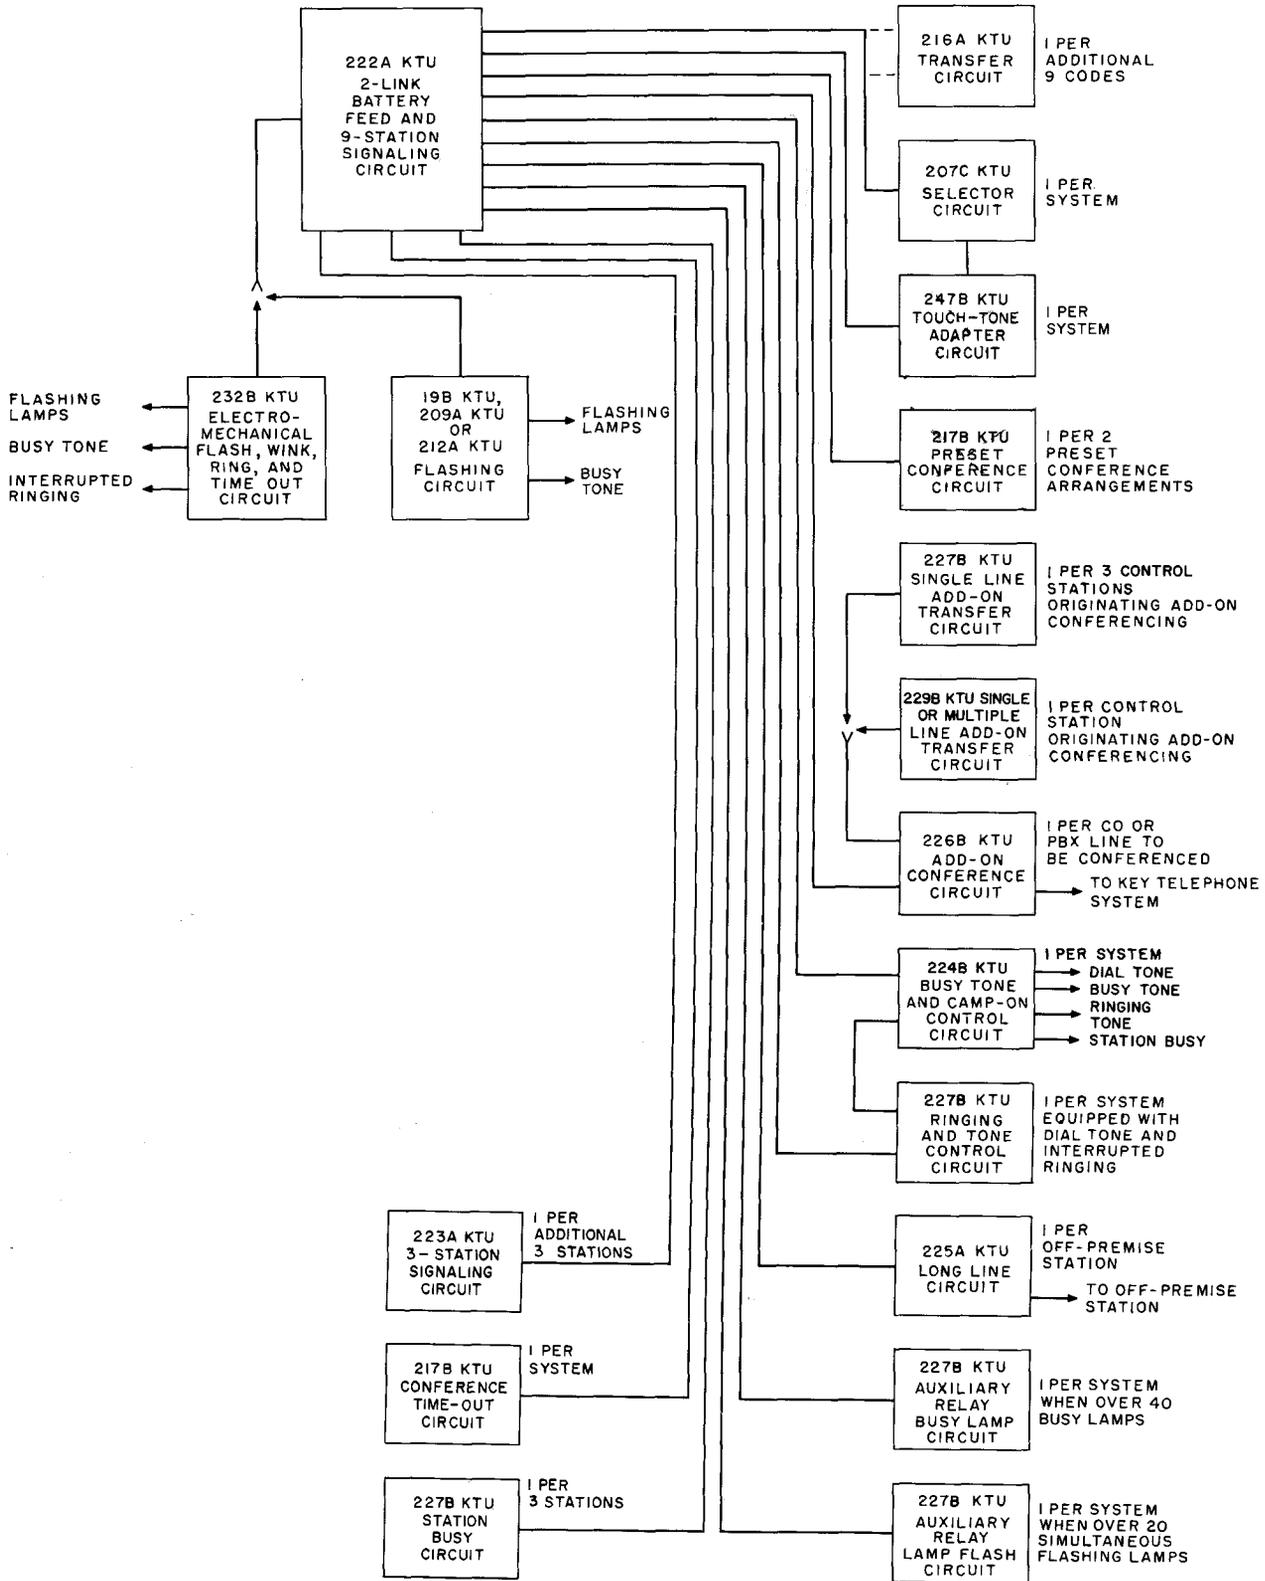

Fig. 4—Two-Link Arrangement
**2.05** The two-talking link arrangement (Fig. 4) provides for: